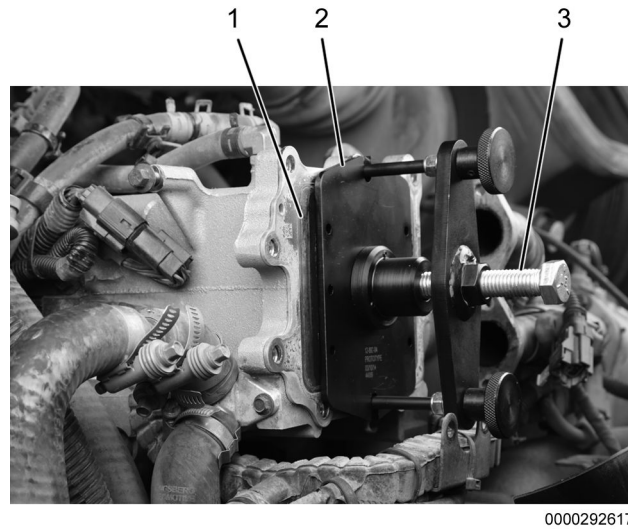

Figure 3. LT EGR Core Puller Removal Plate.
3. Tighten LT EGR core puller removal forcing screw (Figure 3, Item 3), hand tight, until removal plate (Figure 3, Item 2) is flush with LT EGR cooler core (Figure 3, Item 1).